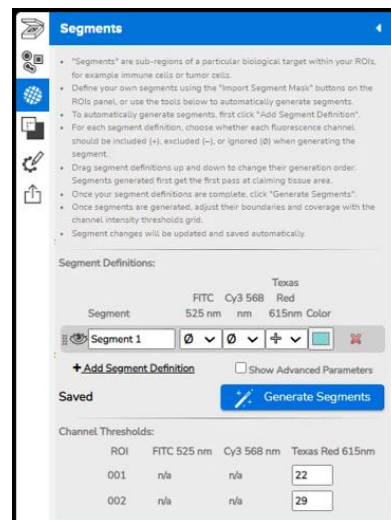

Figure 42: Generate Segments button
- Any segment definitions existing in the source ROIs will transfer to the new scan. **To apply the transferred segment definitions**, open the **Segments** menu and click **Generate Segments** (see Figure 42). Segments can be adjusted or new ones created.